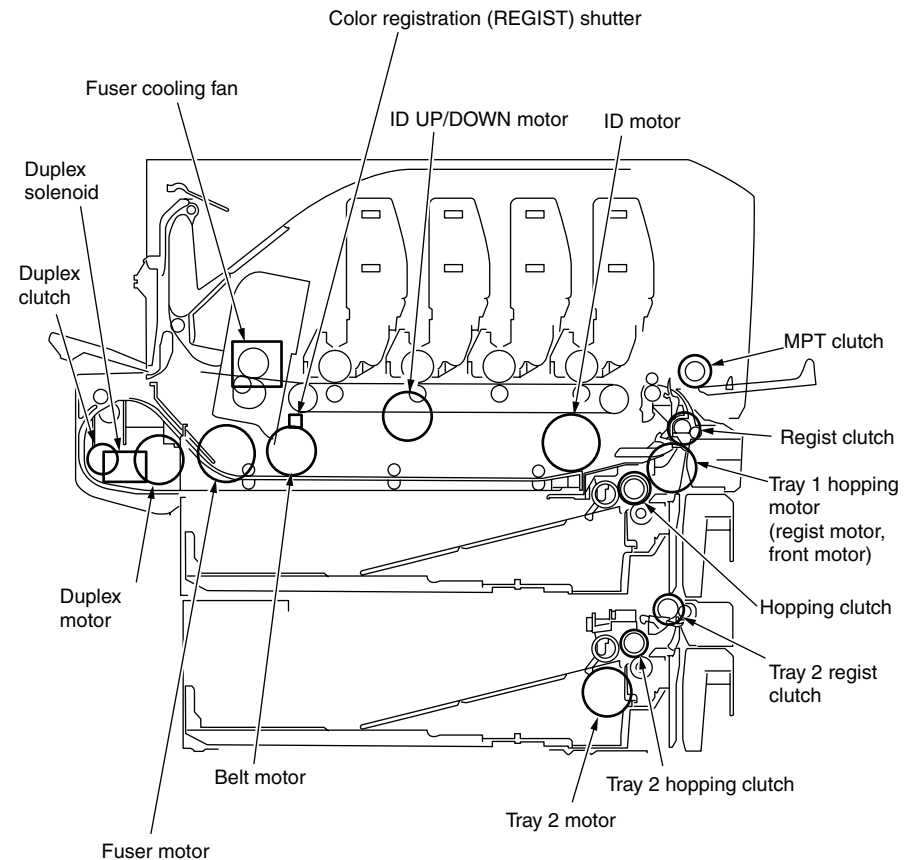

Figure 5-2
3. Pressing the ENTER key starts the test. The unit name starts flashing and the corresponding unit is activated for 10 seconds. (Refer to Figure 5-2.)